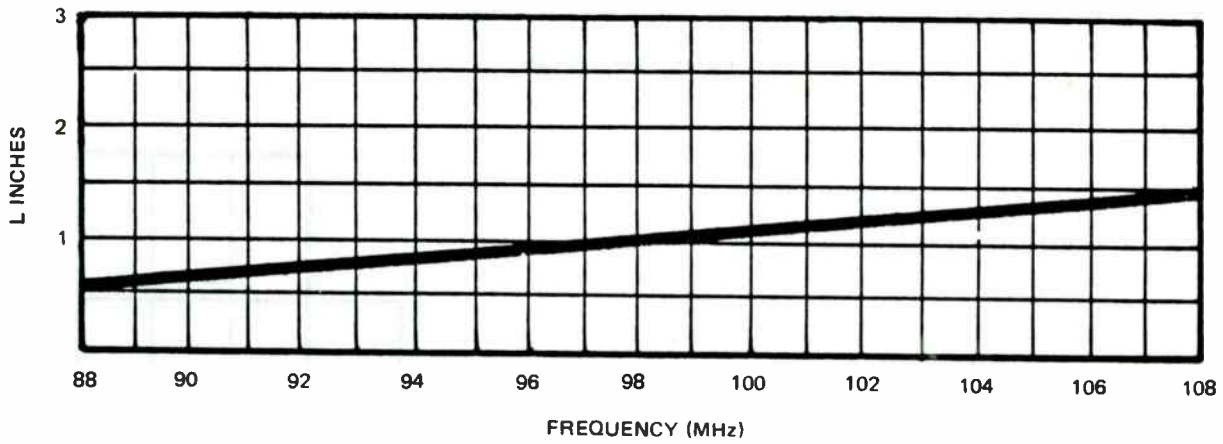

Figure 5-2. PA Neutralizing Adjustment
Adjust the PA neutralization bars to the desired frequency in accordance with the graph in Figure 5-2.
4. Refer to Figure 5-2 and adjust the screen sliders LN1 and LN2. The sliders should not require an adjustment greater than  $\pm 1/4$  inch from the initial setting. (A setting on the plus side is preferred.)